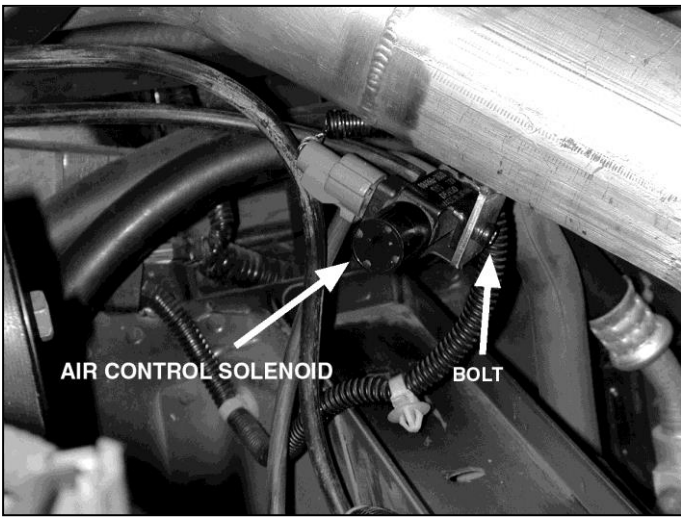

Fig.7
- h. Using the factory bolt, secure the Air Control Solenoid Valve to the bracket on the upper cold air pipe as shown. **(Fig. 7)**